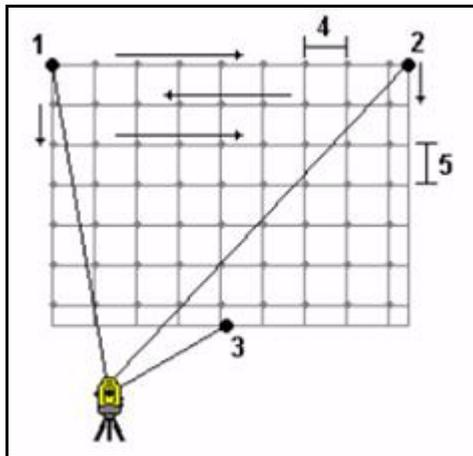

Figure 1.15 Rectangular plane
- a. Aim at the point that will define the top left corner of the rectangular plane (1). Tap *Fast fix* from the *1st corner* field pop-up menu. The point is automatically measured and stored with an arbitrary point name. See Figure 1.15.